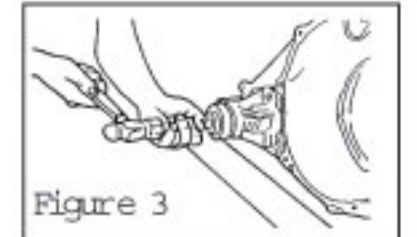

Figure 3
4. Install the stabilizer with TeckPak bearing driver T404-303. (Figure 3). Allow 30-60 minutes for Lock-Tite sealant to dry.